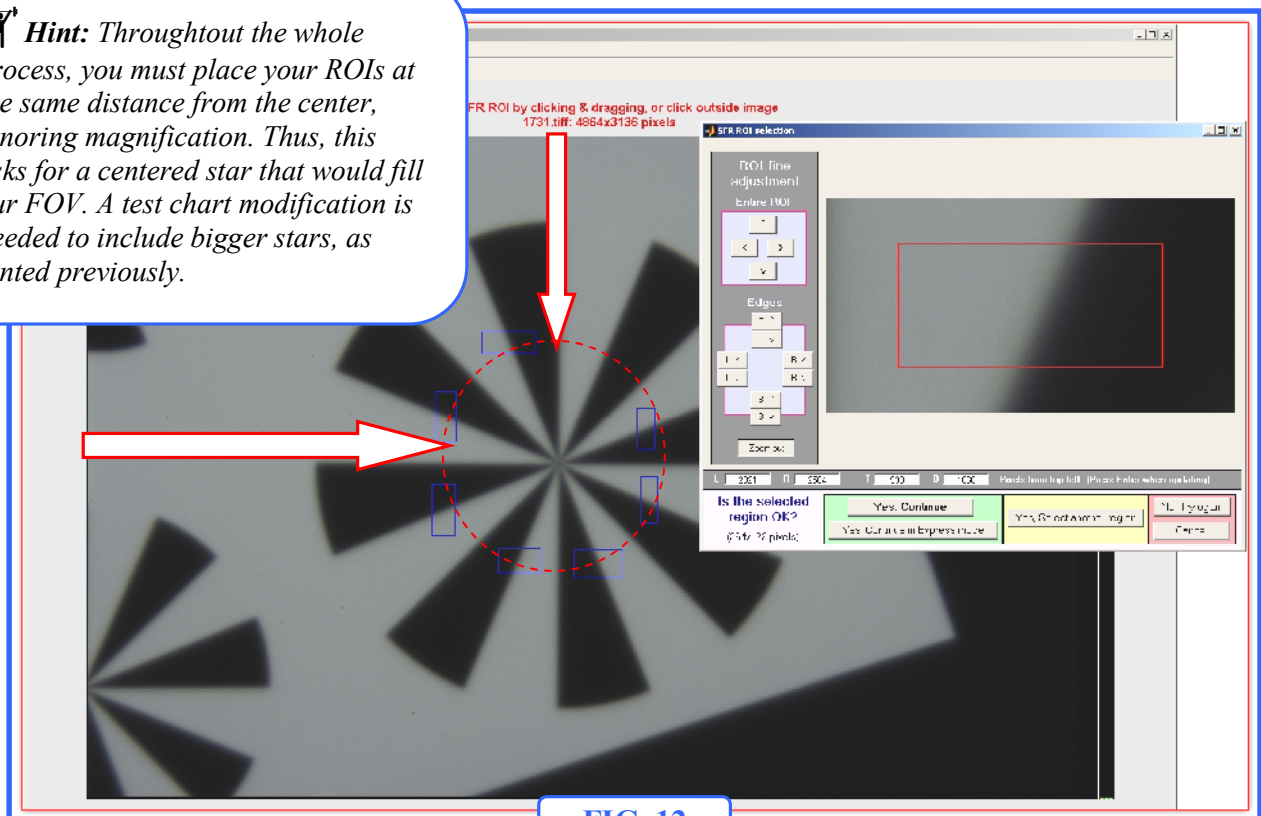

FIG. 12
- 5) In next window, Imatest™ asks for points of analysis, each named by Imatest™ after “ROI” (“Region Of Interest”). When low magnifications are involved –depending on scope and eyepiece being tested– centered “star” does not cover all of our FOV, so you can only choose analysis points up to the central star diameter size, whatever that is. This means it would be a good idea to modify this custom-made chart to include bigger 8 segments stars if you are interested in analyzing off-axis performance (Fig. 9 VS Fig. 10). Moreover, as Fig. 12 “hints”, ideally we should ALWAYS have our centered star filling FOV.
We get analysis points this way: take mouse and click&drag rectangles all around the black&white frontiers of the central star's segments. Place them all around, aprox. at the same distance of the center of the star, following a "circle" (Fig 12). As you can see, I placed them at "middle" distance from the center for all of my tested stuff. This is not really "on-axis", (but it is less time-consuming). For subsequent image ROIs, keep this same distance regardless AFOV. The idea is to "study" the same points at the same distance from the center, regardless magnification/eyepiece involved. To properly keep the same distances in your whole eyepiece lot, you could print concentric circles in a transparent paper film, which you place –physically– on your your screen over the star's center, as a guide. This way you would always follow the same circle(s) perimeter to choose your analysis points, and those points would be placed at the same distance of star's center, regardless of magnification.